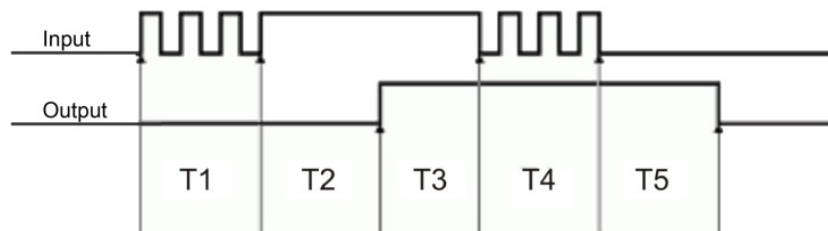

Figure 6. Trigger after stable mode
In the *trigger after stable* mode, the output of the debounce module does not change state until a period of stability has been achieved. This means that the input has an edge, and then must be stable for a period of time equal to the debounce time. Refer to Figure 6.
- T1 – In Figure 6, the input signal goes high at the beginning of time period T1, but never stays high for a period of time equal to the debounce time setting (equal to T2 for this example.)